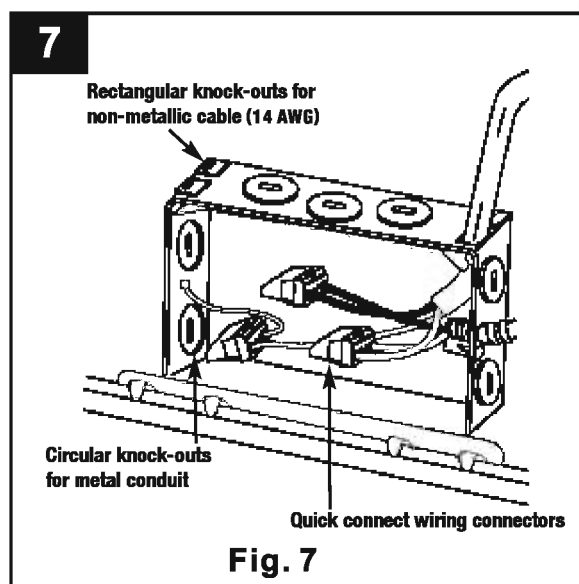

Fig. 7
6. Turn power off at fuse or circuit breaker box (Fig. 7).
Provide electrical service according to the "National Electrical Code" or your local electrical code from a suitable junction box to the wiring box (located on the plaster frame). Supply wire insulation must be rated for at least 90°C (Fig. 7).
Remove the wiring box cover (Fig. 7).
Note: The wiring box will accept metal conduit or non-metallic cable, but metal conduit must be used if your electrical code requires it (Fig. 7).
Metal conduit: Remove appropriate round knock-out(s) and connect conduit to wiring box with proper connector(s) (sold separately) (Fig. 7).
Non-Metallic cable: Remove appropriate rectangular knock-out(s) on top of wiring box and insert cable pushing it past the cable lock in the wiring box. Cable will be held in place by the lock; no other connector is required (Fig. 7).
Connect supply wires by firmly pushing into “push-in” connectors. Connect white to white; black to black; and green or bare copper wire (from electrical service) to bare copper wire (in wiring box). Be sure no bare current carrying wire is exposed (Fig. 7).
Note: The ground wire at the service junction box may need to be secured to a ground screw (Fig. 7).
Place wires and connections back in wiring box and replace cover (Fig. 7).